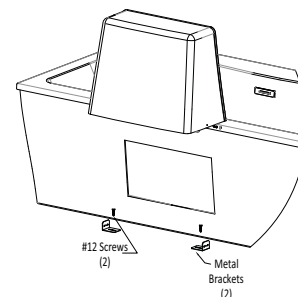

Figure 4
5. Measure 1.5" [3.8cm] from the marked location of the decorative screws and use the (2) included #12 screws to attach the brackets to the floor at these locations. See Figure 4